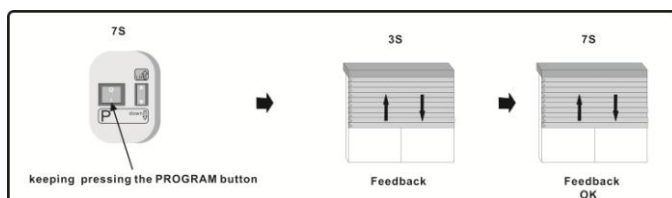

Fig.14
-> the motor will joggle two times in both direction (the First joggle at 3s and the second joggle at 7s). Refer to Fig.14